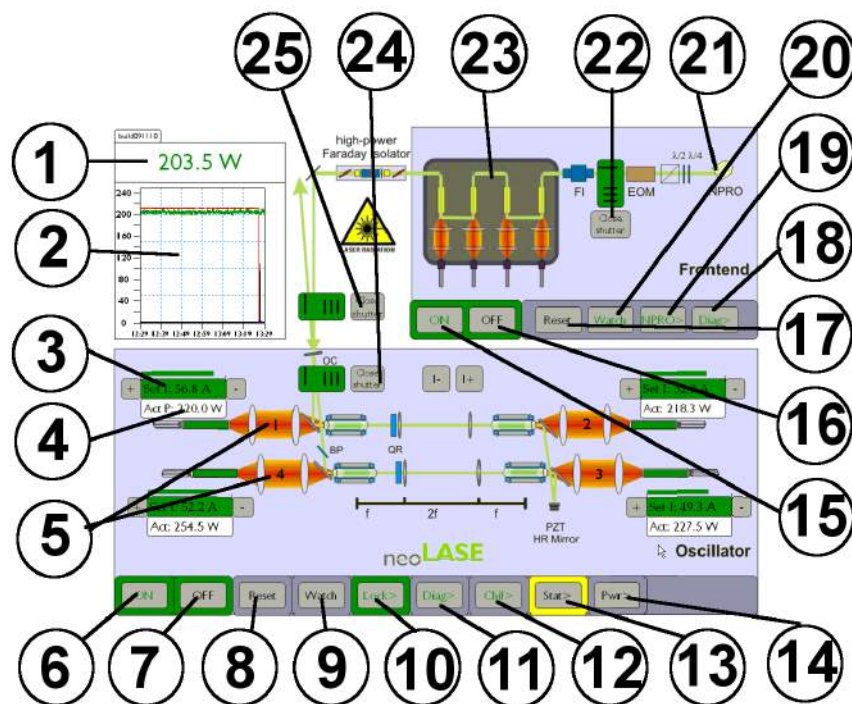

Figure 8.1: The main screen. Look into the following sections to get explanations for the labeled fields.
The laser system is controlled by a GUI connected to the TwinCAT SPS-environment. After starting the visualization one will see the screen, shown in figure 8.1, called “main screen” in the following sections.
The pump currents can be directly set to those values, which belong to the oscillators working point by clicking into the box, which is shown at ③ in figure 8.1. A box will appear, which can be used to set or change the value. Press “OK” in this box to transfer the values to the power supply or “ESC” to go back to the main window. Proceed like this for all four laser heads of the oscillator.